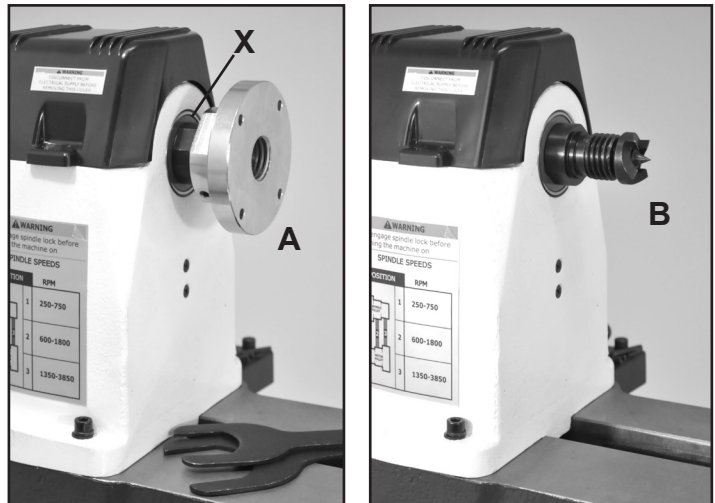

FIG. 2
3. **HEADSTOCK FACEPLATE:** Faceplates (#58, FIG. 2, A) are used for turning bowls and plates. There are a number of screw holes on the plate for mounting the workpiece for turning. Thread the faceplate onto the spindle in a clockwise direction, and tighten it in place with the set screws that are located on the back hub of the faceplate. To remove the faceplate, loosen the set screws. Use one wrench on the flat portion of the spindle (X) and another wrench on flats of the faceplate's rear hub, then loosen the faceplate from the spindle. Rotate the faceplate counter-clockwise to fully remove it from the spindle.
4. **HEADSTOCK SPUR CENTER:** The Spur Center (#59, FIG. 2, B) is used for turning between centers. It fits into the spindle. Both spindle and the spur center have matching MT-2 tapers. The spur center can be removed from the spindle with the long Knockout Bar, inserted through the outboard left end of the spindle. **NOTE:** Be careful and hold the spur center during this process so it does not fly out onto the floor. A short Knockout Bar is supplied to remove the Spur Center's Center Point, if it needs replacing.